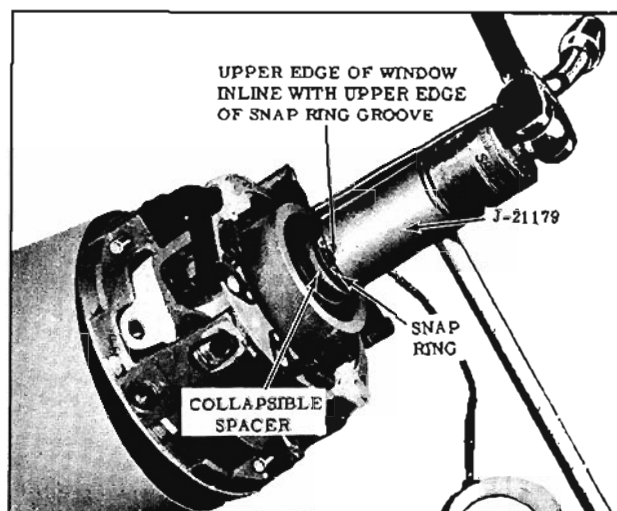

Fig. 8-116 Installing Upper Shaft Snap Ring
7. Install the snap ring over the steering shaft and against the collapsible spacer, then place Tool J-21179 over the steering shaft with the window in line with the snap ring opening. (Fig. 8-116)